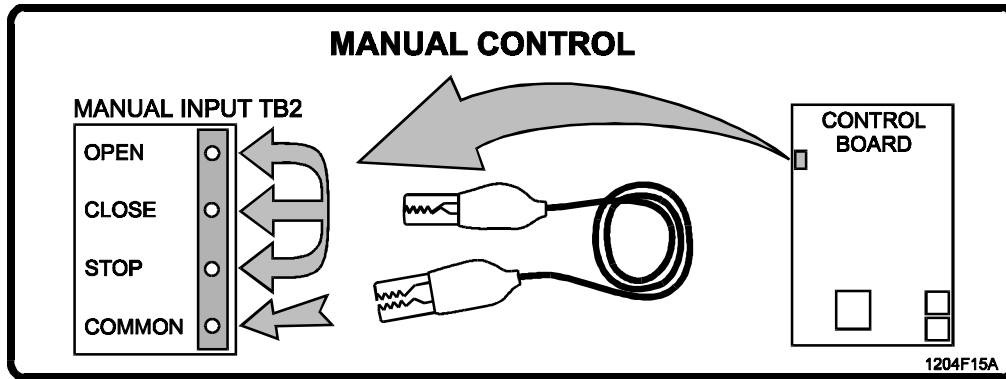

Figure 5. Manual Controls, Location and Use.
If necessary, use the manual controls on Manual Input Terminal TB2 (OPEN, CLOSE, and STOP, as shown in Figure 5), to move the gate arm during system installation.
3. Using the manual controls (Figure 5), initiate gate opening, then stop the gate about one foot short of its fully open position.